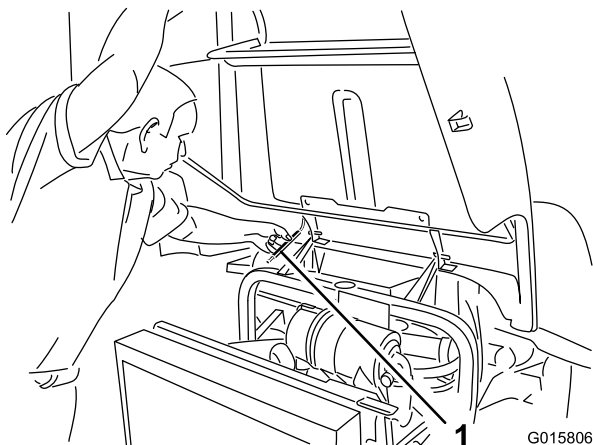

Figure 32
2. Lift up on the hood until the prop rod can be positioned behind the frame tube (Figure 32).